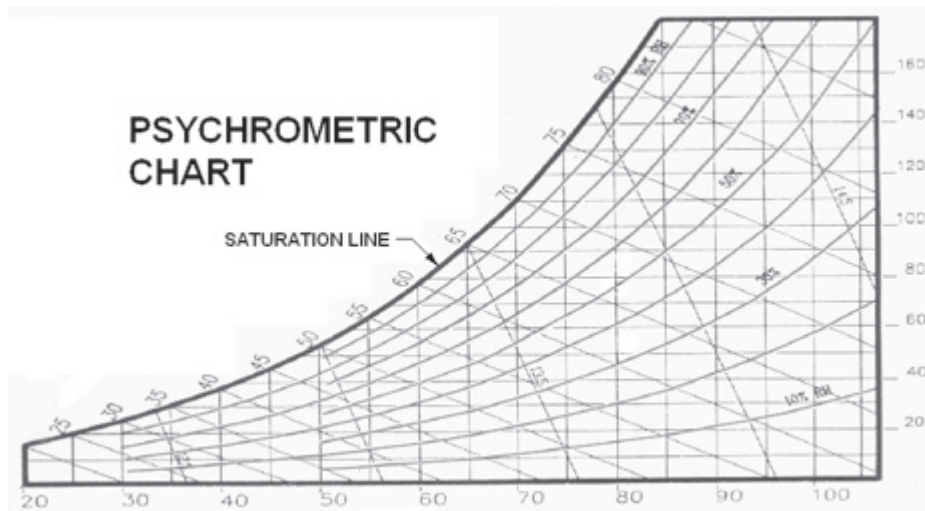

Figure 5-41. Psychrometric chart
One of the keys to understanding the operation of an air conditioning system is learning what is comfortable for occupants and how to get the air in the space to meet those comfort requirements. In order to do that we need to understand Psychrometrics. Being able to use a psychrometric chart, Figure 5-41, is imperative.
A psychrometric chart can be more detailed than the one in Figure 5-41 and you should find that the salesmen that call on the plant will be more than willing to provide you with one that's encased in plastic so you can mark it up and erase it as often as you want. I still have one that was provided by Carrier™ back in 1969. I have no idea how many times I have plotted the conditions for an air conditioning system on that chart then copied it for a permanent record before erasing it but I bet the number is over one thousand. The salesmen also gave me pads of paper charts that I could use but, in today's world they're not commonly offered. The one shown here is much simpler because it doesn't contain all the values and lines that are on a complete psychrometric chart but it's more than adequate for the purposes of an operator. Normally you do not need to know the volume of the water and air mixture, the enthalpy, and other values used by engineers.
There are multiple scales on the psychrometric chart so some explanation is necessary. The horizontal scale read at the bottom of the chart is identified as the dry bulb (DB) temperature. The vertical lines from that scale are representative of that temperature. The vertical scale on the right side of the chart in Figure 5-41 is in grains of water per pound of dry air (a grain being one seven thousandth of a pound). Your laminated chart will contain scales on the right side for pounds of moisture per pound of dry air as well. The horizontal lines are lines of constant moisture content, pounds or grains of water per pound of dry air. The scale on the curve of the chart is wet bulb temperature and the lines progressing down and to the right are lines of constant wet bulb Temperature. Curves within the chart that almost parallel the terminating curve are values of percent humidity. Lines sloping steeply from left to right along the width of the chart indicate cubic feet of air per pound of the air